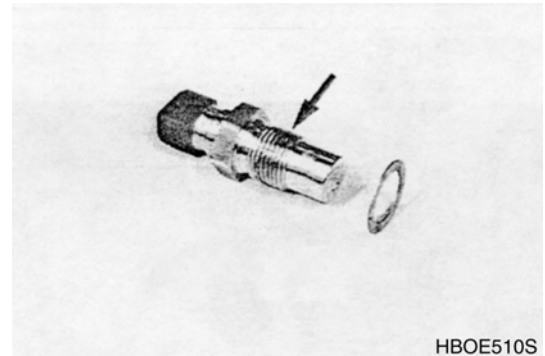

Figure 364
8. Assemble corresponding shim and wet thread (Figure 364) with Loctite #574.